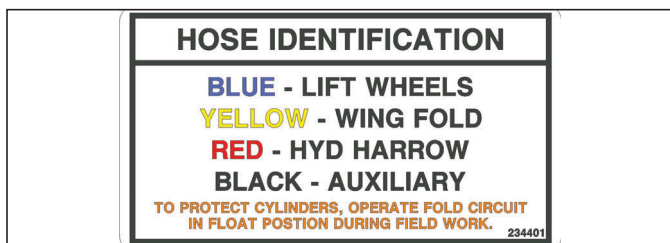

Figure 4-10: Hose Identification Decal
2. To help protect the fold cylinders from damage, it is recommended to operate the fold circuit in "FLOAT" position during field operation. This will allow the cylinder rod to be able to retract if necessary **See Figure 4-10.**